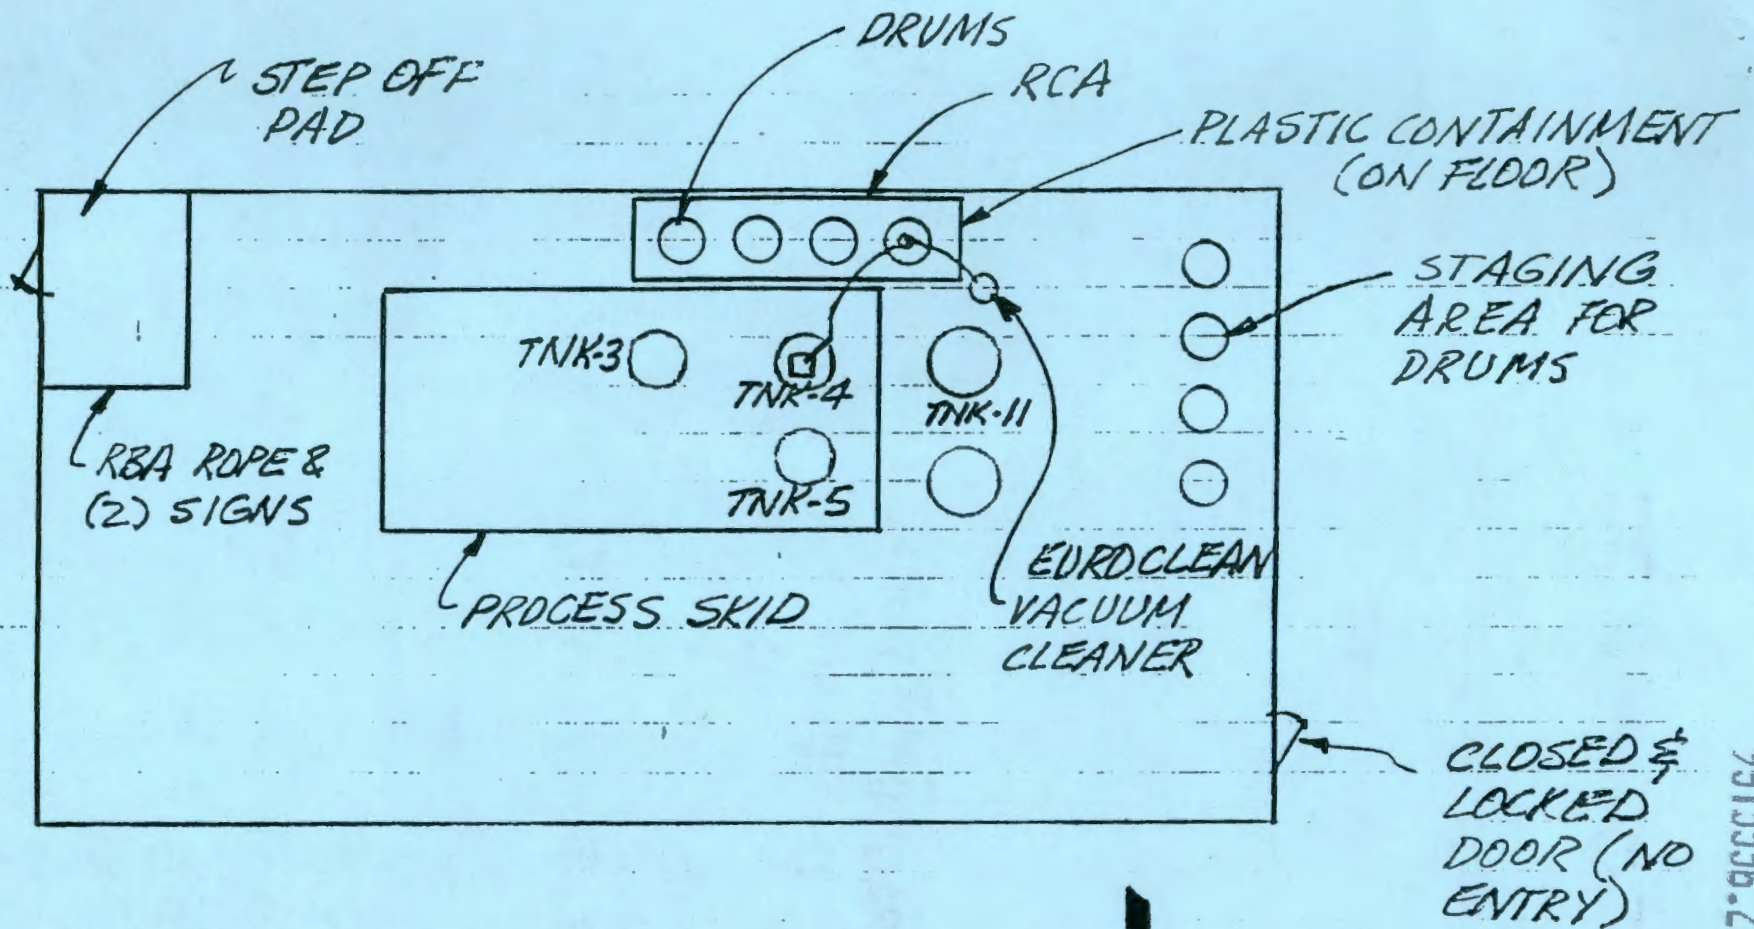

FIGURE 8-1
3. Set up equipment (Euro Clean Vacuum Cleaner and hoses, drums, plastic secondary containment areas, and other support equipment), RCA(s), RBA, step off pad(s) and posting per the RWP. Refer to Figure 8-1.